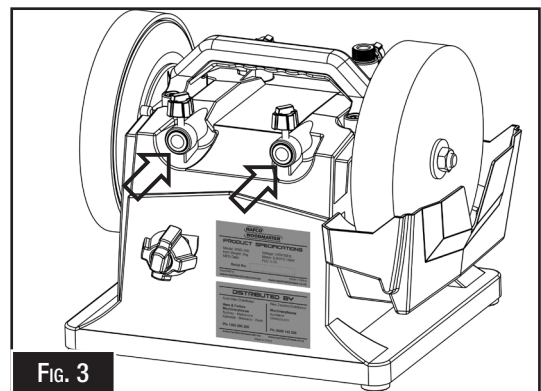

FIG. 3
1. Attach the tool support by inserting into the two mounting holes located on the rear of the grinder. Adjust to the desired height, before tightening the two knobs to secure it as shown. (Fig. 3)